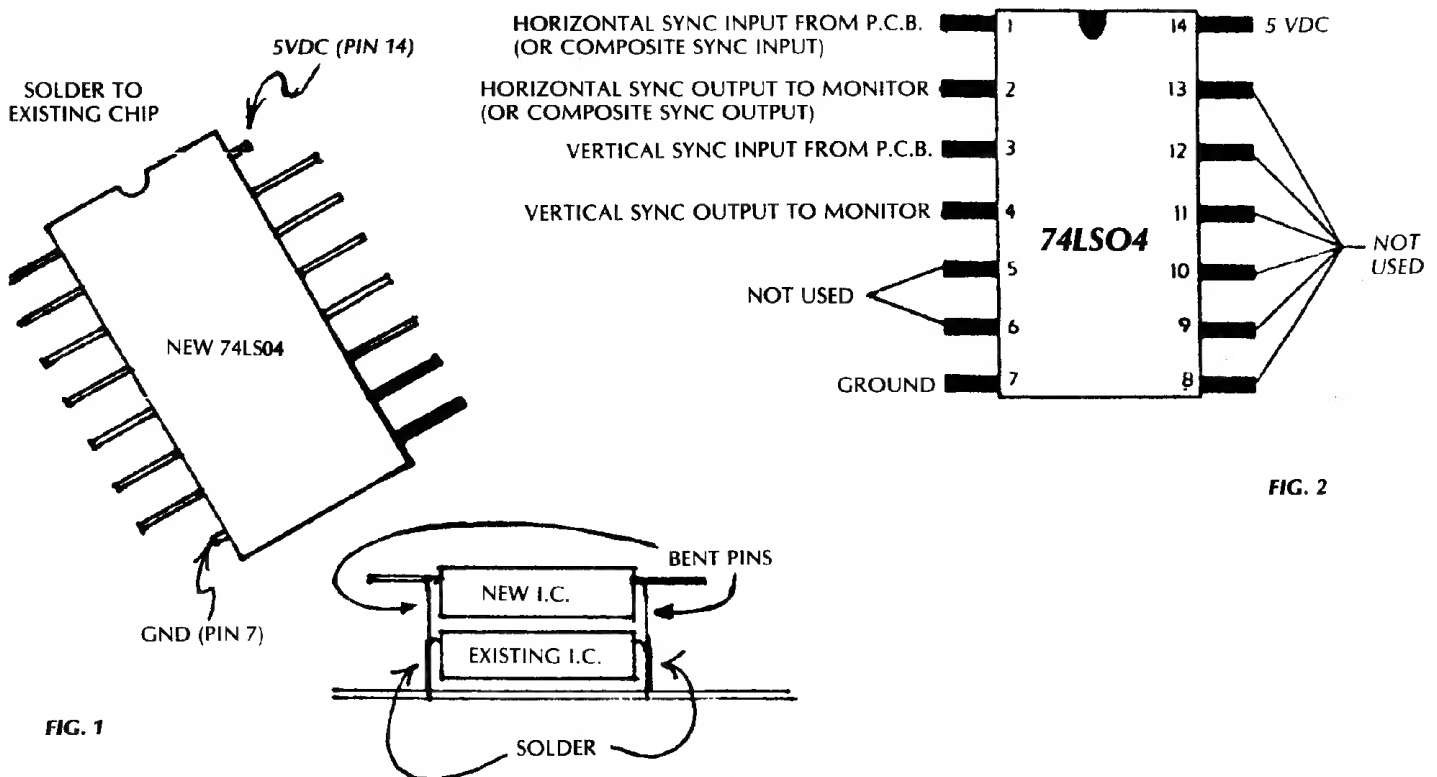

FIG. 2
**CURE 1:** Install a simple one I.C. circuit on your logic board. This I.C. may be "piggy backed" on to another 7404 series chip for power by bending up all but the two power pins so that they are parallel to the top surface of the new I.C. and then connecting the power pins only to the existing chip. (See Fig. 1) Next connect the sync wires as shown in Fig. 2. (Note: Figure 2 shows a hookup for either composite or separate syncs.)